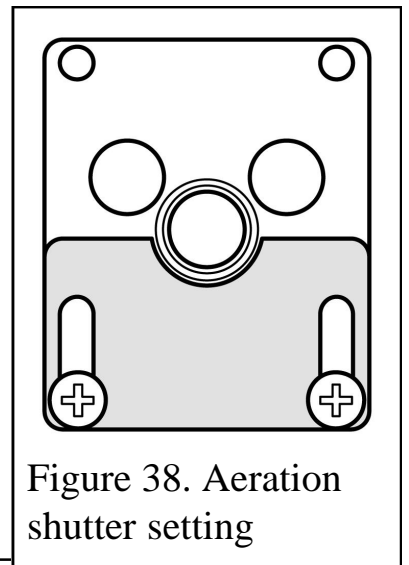

Figure 38. Aeration shutter setting
1. The aeration shutter is factory set and **will** require adjustment. **It is important to ensure that the aeration setting is correct (See figure 38).**
2. To adjust the aeration setting, loosen the two aeration shutter screws, slide the aeration shutter to the position shown in figure 38 and tighten the fixing screws.